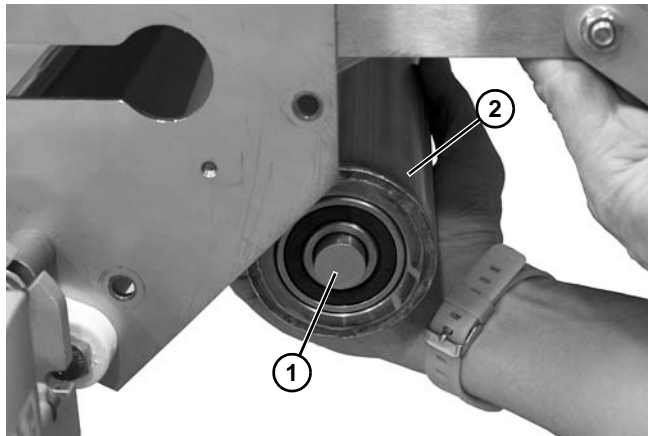

Figure 56
15. Slide shaft (Figure 56, item 1) into the tensioner pulley (Figure 56, item 2). Remove the tensioner pulley.